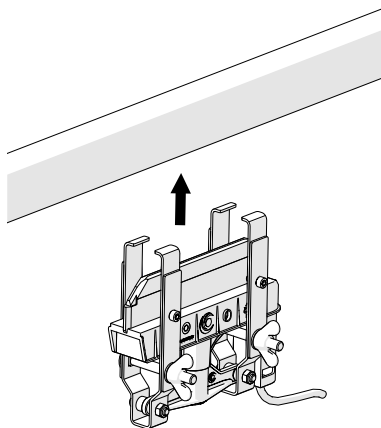
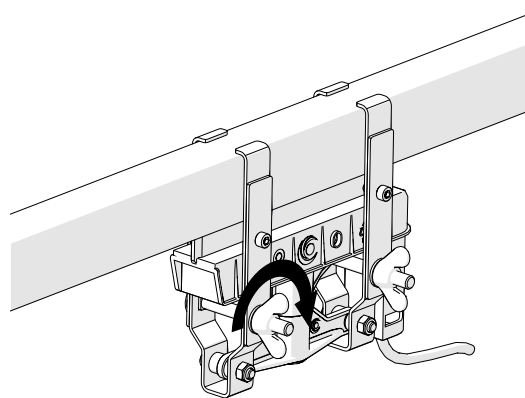
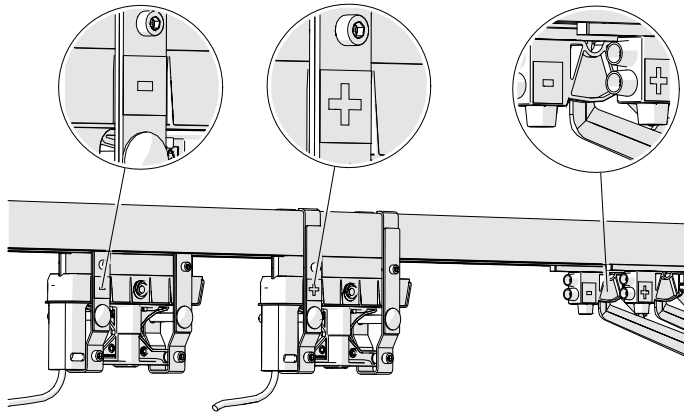

Fig. 26: Loosen the butterfly nut
Fig. 27: Tighten the butterfly nut
Fig. 28: Respect the polarity
1. Loosen the butterfly nut (see Fig. 26) and insert the current collector into the rail. Tighten the butterfly nut (see Fig. 27). Respect the polarity (see Fig. 28).